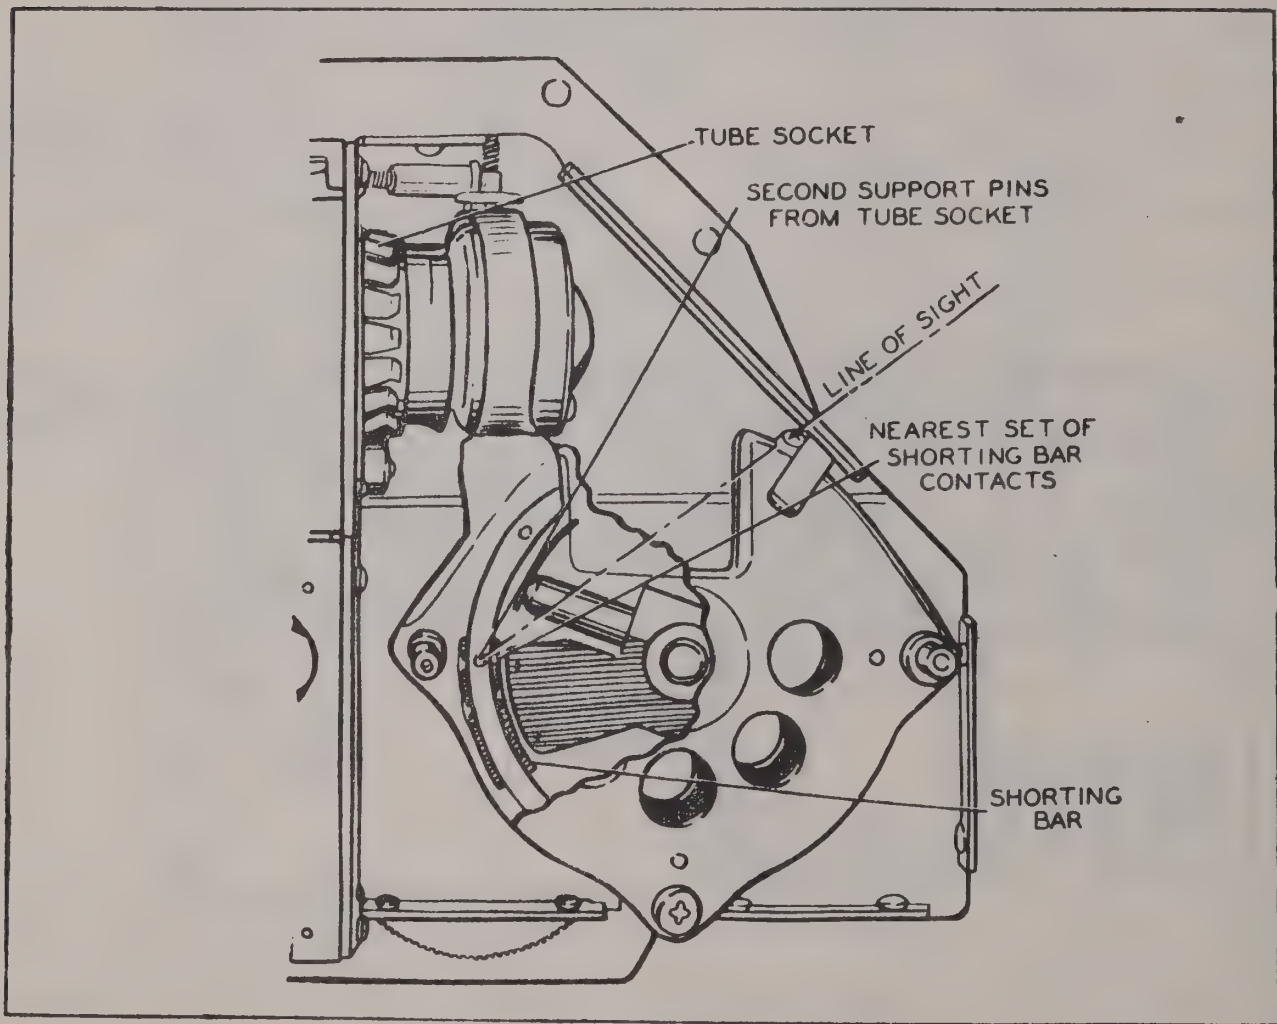

Figure 3-7 Radio Transmitter T-217A/GR, Power Amplifier Shorting Bar Positions at 390.5Mc.
(34) As viewed from the top front, locate the nearest set of shorting bar contacts. These contacts should be aligned to within 1/4 inch of the second set of support pins. The second set of support pins are the second pair away from the tube socket. See Figure 3-7.
(35) Replace the cover plate on the Amplifier Unit, and return the equipment to its original condition.